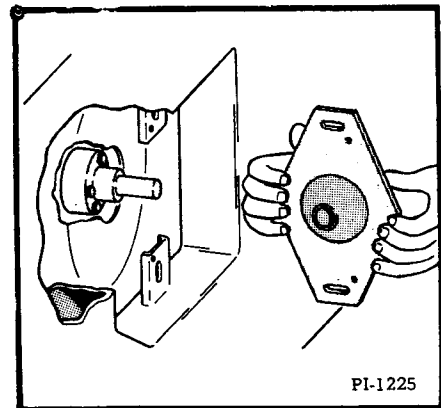

Fig. 39 Mounting Pump Aligning Tools
- (3) Mount the engine adapter to the engine crankshaft (Fig. 39).
- (4) Mount the pump aligning hub to the pump mounting plate in place of the pump (fig. 39).